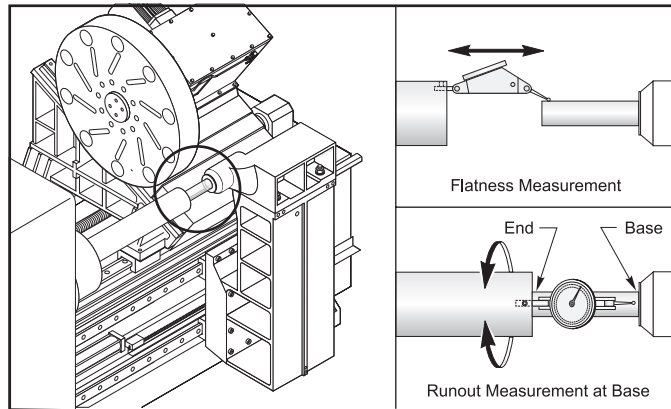

Figure 3-14
1. Using a spindle alignment tool and a Morse taper tool, indicate from spindle to tailstock. Measure flatness and TIR (total indicated run-out). Determine which direction the tailstock is out of alignment (Figure 3-14).